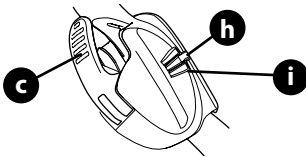

Figure 5
**IMPORTANT:** When locking the EZ-fold handle release lever (c) ensure the position indicator (h) aligns with one of three handle positions (i) (Figure 5).